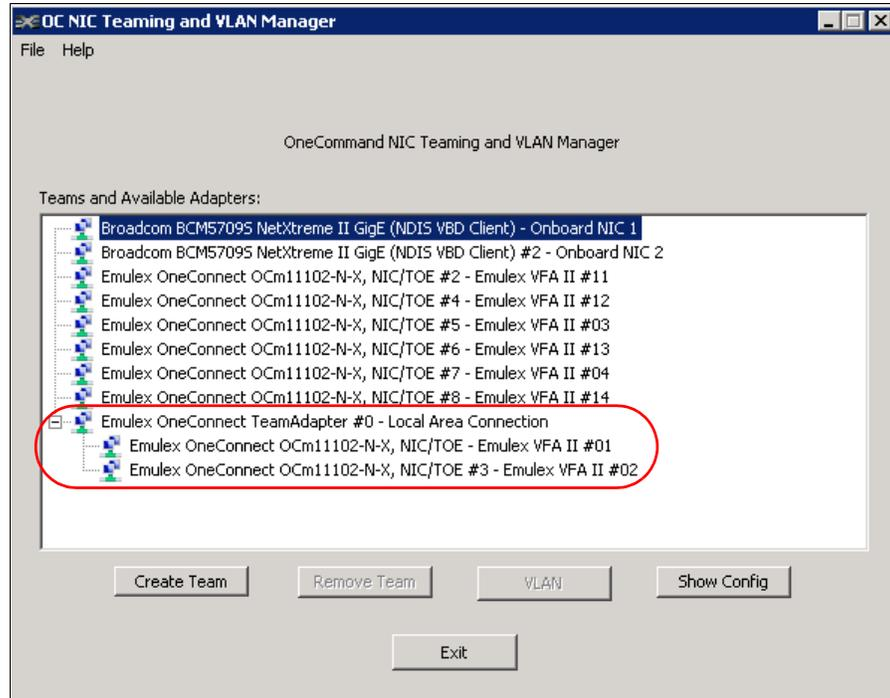

Figure 9-29 New team created in Emulex OneCommand Manager
3. Highlight the new team and click **VLAN** to configure the VLAN ID for the team. Figure 9-29 shows the newly created team.